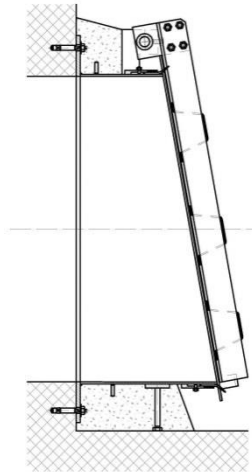

Fig.6
- Align, level and fixate heavy Flap Valves with respective leveling screws (Fig.6).